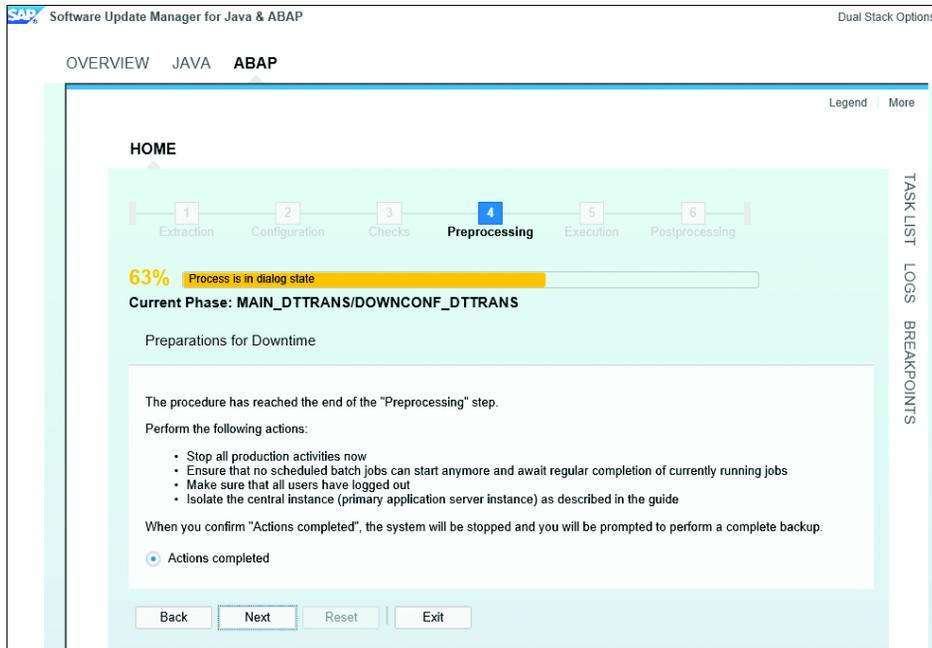

Figure 63 Prepare for Downtime
11. Prepare for downtime when prompted in the step displayed in Figure 63. Verify that all users have logged out and all production activity has stopped. Complete the following tasks before selecting NEXT.